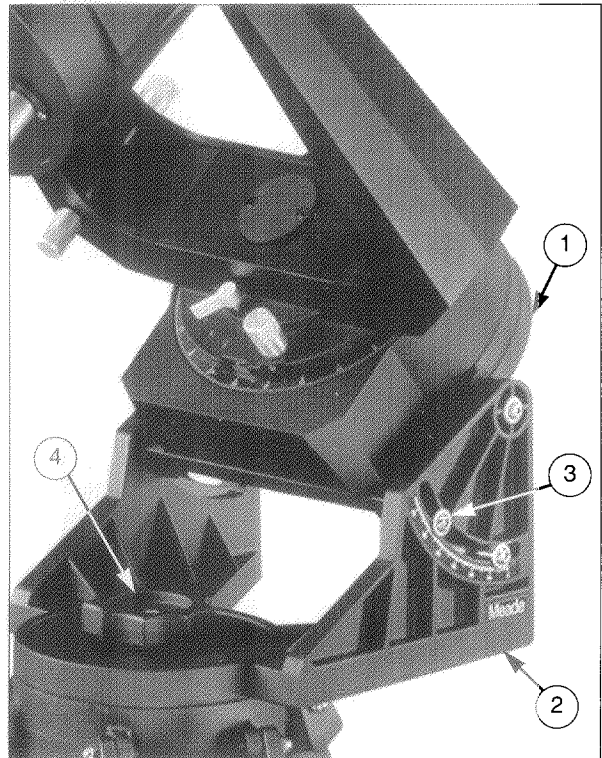

Fig. 11: The Equatorial Wedge. (1) Tilt plate; (2) Wedge body; (3) Tilt angle adjustment lock; (4) 3" manual knob.
- Attachment of the wedge to the field tripod by means of only one manual knob (4, Fig. 11).
- Quick azimuth (horizontal) orientation of the telescope, by loosening the 3" manual knob (4, Fig. 11).
- Fast adjustment of latitude angle with the tilt angle adjustment lock (3, Fig. 11).
The LX10's standard-equipment keypad hand controller (Fig. 11) plugs into the telescope's control panel and is designed for micro-guiding the telescope during long exposure astrophotography, yielding precise corrections in R.A. at 2x speed.